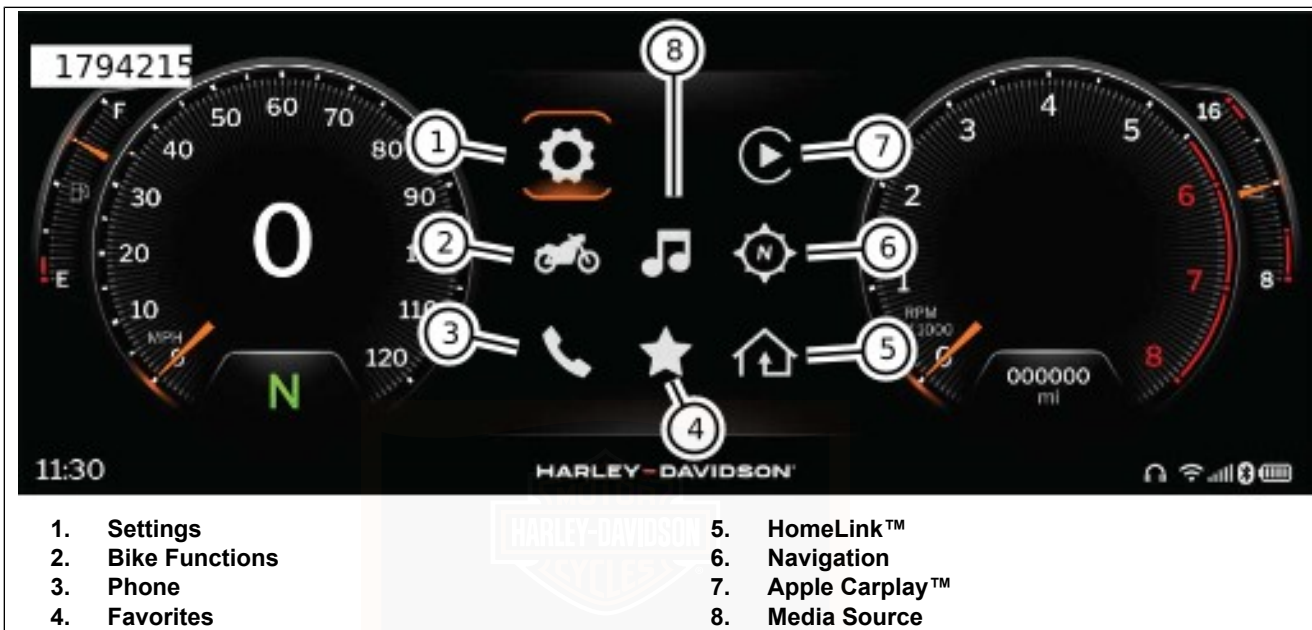

Figure 89. IFCU Menu Selections
- a. See Figure 89. Using left hand control or touch screen, navigate to **Settings>System>System Info>Product Information**. This menu will show the current software version on the IFCU. See OPERATION > INFOTAINMENT CONTROL UNIT (IFCU) (Page 96).